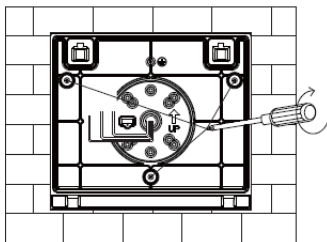

Fig. 2.5
6. Affix the mounting plate with screws (Fig. 2.5).